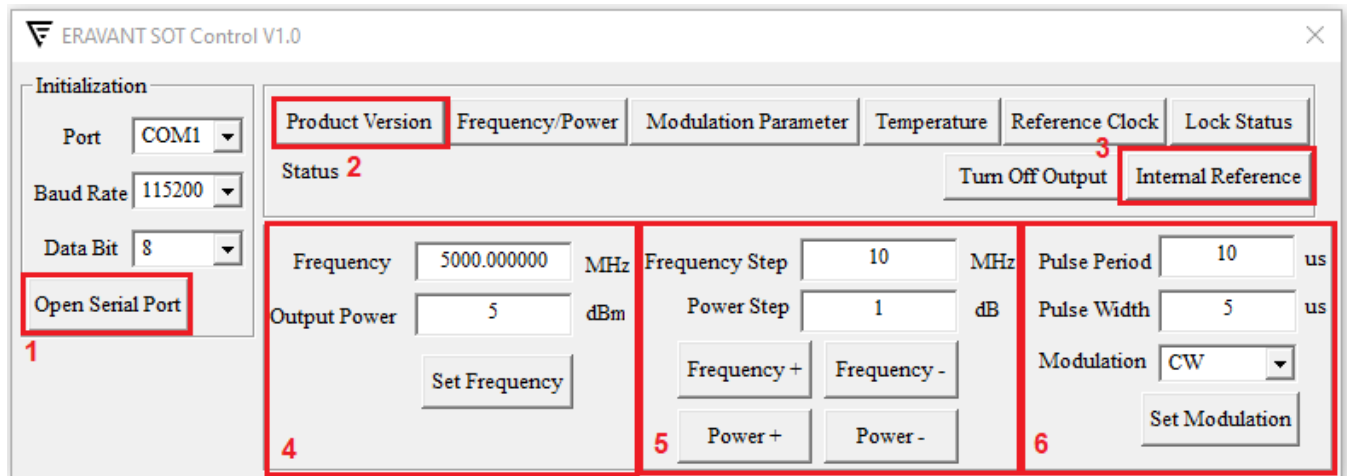

Fig. 1 Eravant SOT Control GUI for SOT-02240310200-KF-B6
As shown in Fig. 1, the steps to use the GUI to generate CW and pulse waveforms can be summarized as below,
1. Power on the synthesizer and connect the synthesizer to PC through serial port. Click on **"Open Serial Port"** on the GUI, which is indicated as block 1 in Fig. 1.